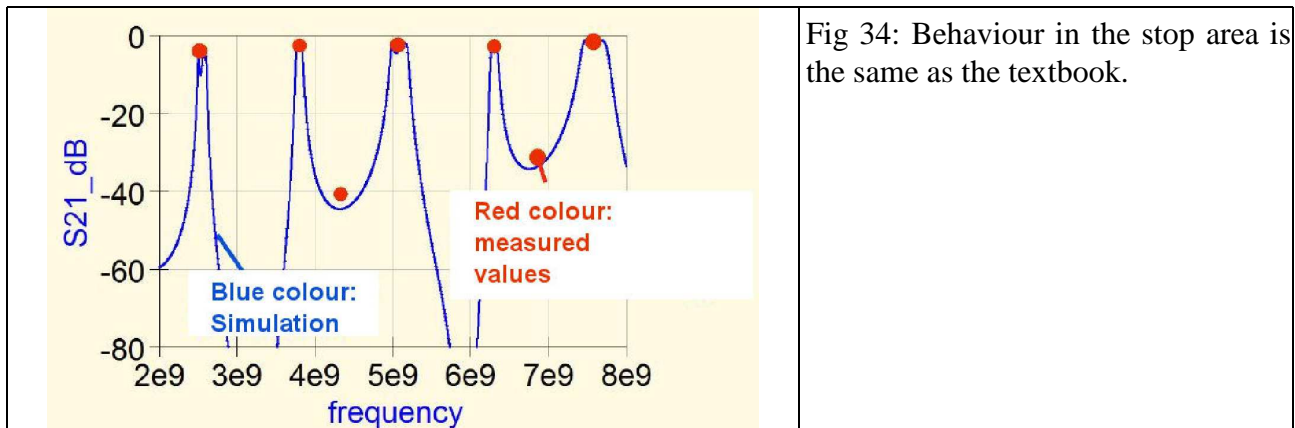

Fig 34: Behaviour in the stop area is the same as the textbook.
**Fig 34** shows the distant selectivity with the unavoidable periodic dips in the stopband attenuation as the frequency increases. The damping material glued on the inside of the lid (see **Fig 32**) prevents housing resonances that cause additional annoyance with resonance behaviour from 4GHz. But that's the way it is with this type of filter ...